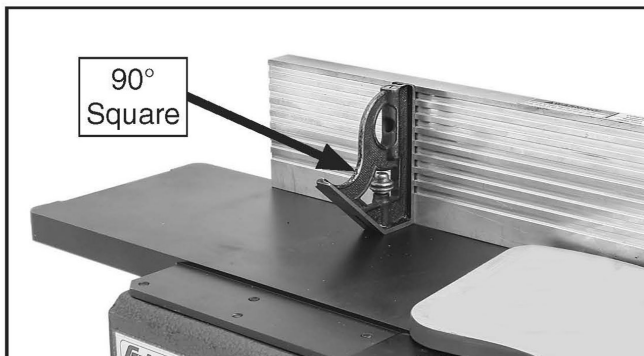

Figure 27. Checking the 90° stop.
3. Use a 90° square to adjust fence to 90° (see **Figure 27**), then tighten fence tilting handle.